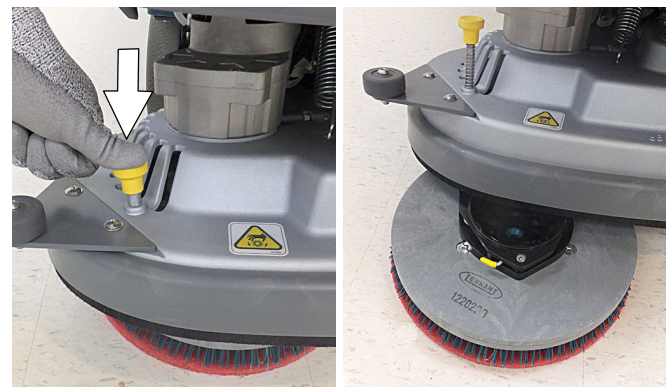

FIG. 12
5. To remove the pad drivers/brushes, raise the scrub head and press down on the yellow pad release plunger (Figure 12). Pad will drop to floor.